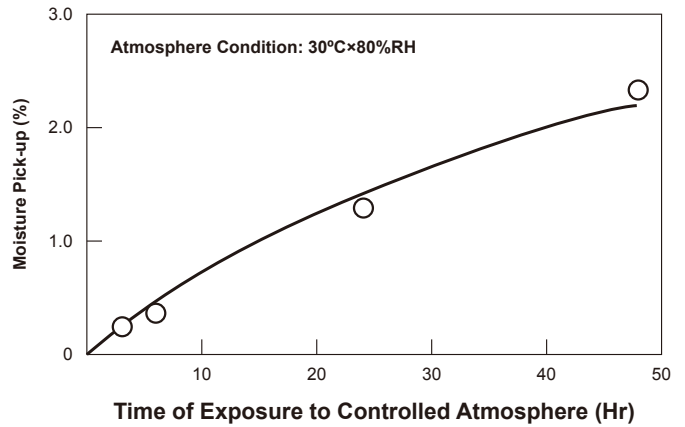

Fig. 4 — The Relationship between Moisture Pick-Up and Time of Exposure to Controlled Atmosphere
- (1) Re-dry FAMILIARC™ LB-52-18 at  $300-350^{\circ}\text{C}$  for 30-60 minutes before use for every four-hour exposure to air without wetting unless otherwise specified. This is because the coating flux tends to pick up moisture in the air as shown in Fig. 4. Moisture can be a cause of spatters, porosity,